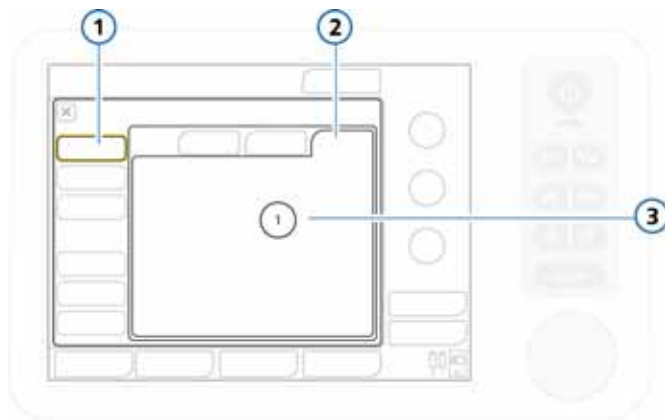

Figure G-4. Minimum alarm loudness configuration
1. Open the General -> More window (Figure G-4).